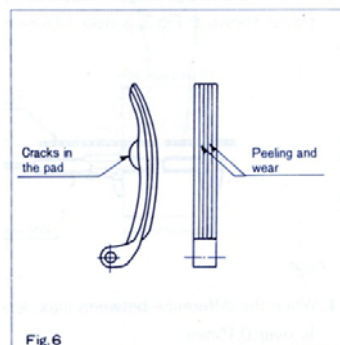

Fig.6
E) Replace the Guide Shoe (Fig. 6 & 7) when: